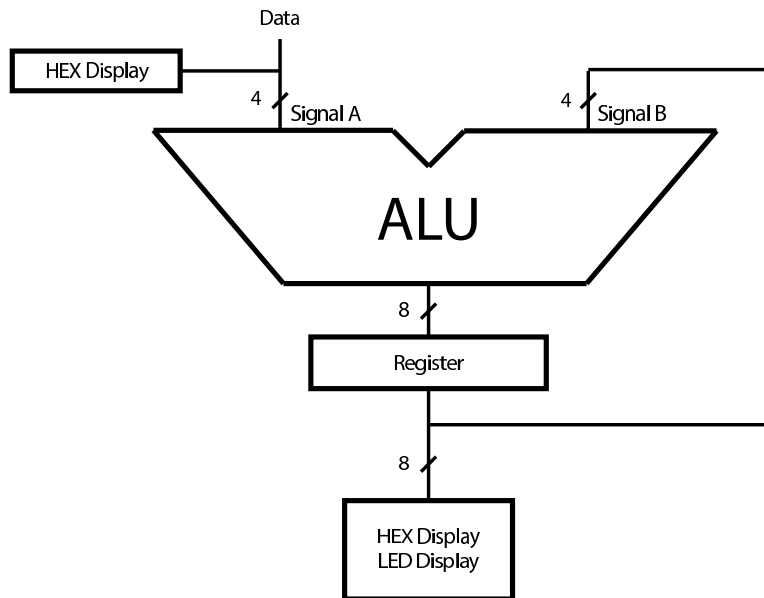

Figure 2: ALU Circuit for Part II.
4. Write a Verilog module for the rotating register with parallel load that instantiates eight instances of your Verilog module for Figure 2. This Verilog module should match with the schematic in your lab book. Use *SW[7:0]* as the inputs *DATA_IN[7:0]*. Use *KEY[1]* as the *ParallelLoadn* input, *KEY[2]* as the *RotateRight* input and *KEY[3]* as the *ASRight* input. Use *KEY[0]* as the clock and *Sw[0]* as a synchronous active high reset, but **read the important note below about switch bouncing**. The outputs *Q[7:0]* should be displayed on the red LEDs (*LEDR[7:0]*).